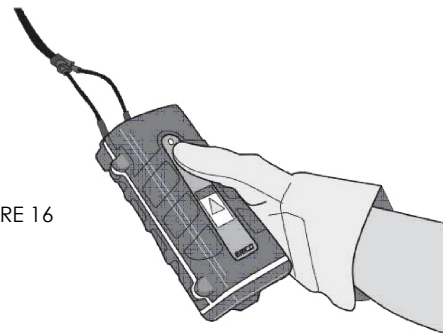

FIGURE 16
4. Position yourself upwind of the mold, on the field side of the rail. Press and hold Control Unit operator button until the ready light turns off and wait for ignition. **See Figure 16.**